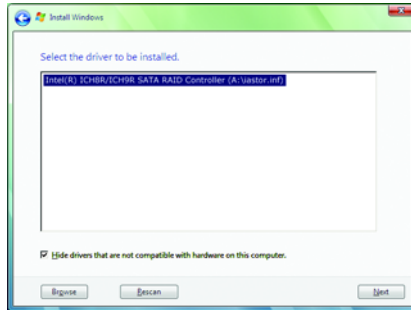

Figure 10
① Only for GA-P35-DS3R.
When a screen as shown in Figure 10 appears, select **Intel(R) ICH8R/ICH9R SATA RAID Controller** ^(Note) and press **Next**.
(Note) The item displayed in Figure 10 will be shown as **Intel(R) ICH9 SATA AHCI Controller** when the SATA controllers are set to AHCI mode.